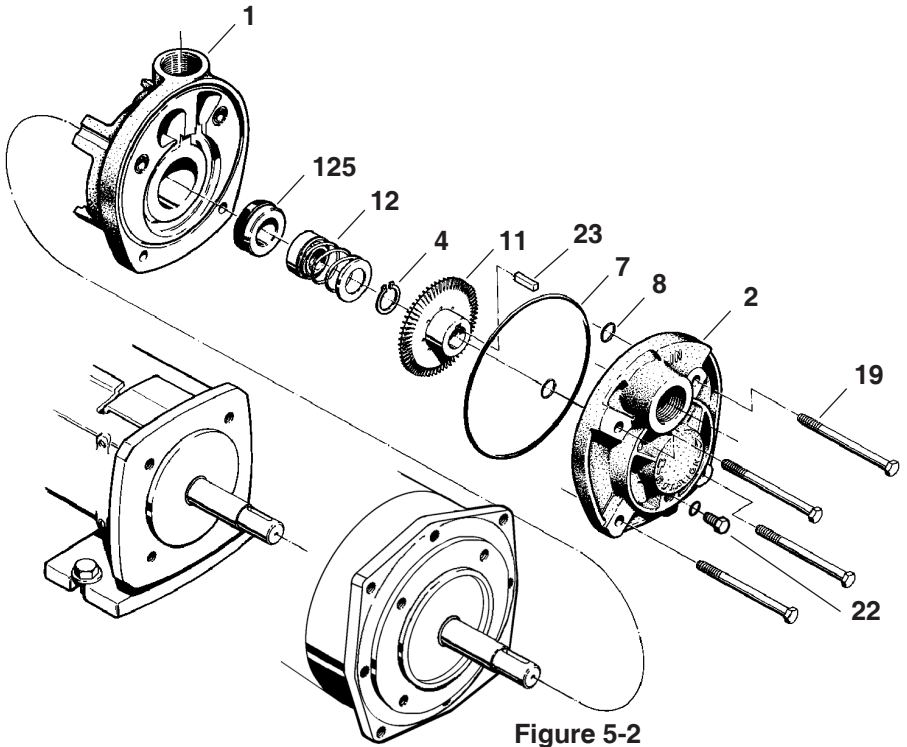

Figure 5-2
Refer to Figure 5-2 for reference to the numbered parts in the procedures below.
6. The impeller is a slip fit and should slide on firmly but easily until it stops against the impeller wearing surface. Force should not be required or used to install the impeller in the correct position. The impeller hub should be facing out away from the motor bracket. Refer to Figure 5-2.
8. Place the large "O" ring (#7) into the outside "O" ring groove in the motor bracket. Place the two (2) smaller "O" rings (#8) into the smaller "O" ring grooves.
9. Place the cover (#2) over the motor bracket and install the four (4) M6-1 X 80mm bolts (#19). Tighten the bolts systematically, alternating diagonally across the cover. **DO NOT** exceed 7-11 ft. lbs. of torque or damage to the motor "C"-face may occur.